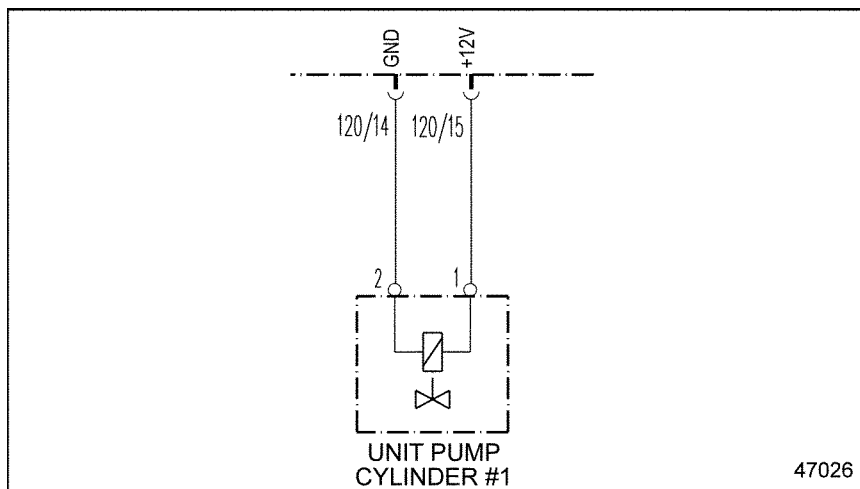

Figure 44-1 Electronic Unit Pump #1
2. Measure the voltage between pins 1 and 2 of Electronic Unit Pump #1. See Figure 44-1.